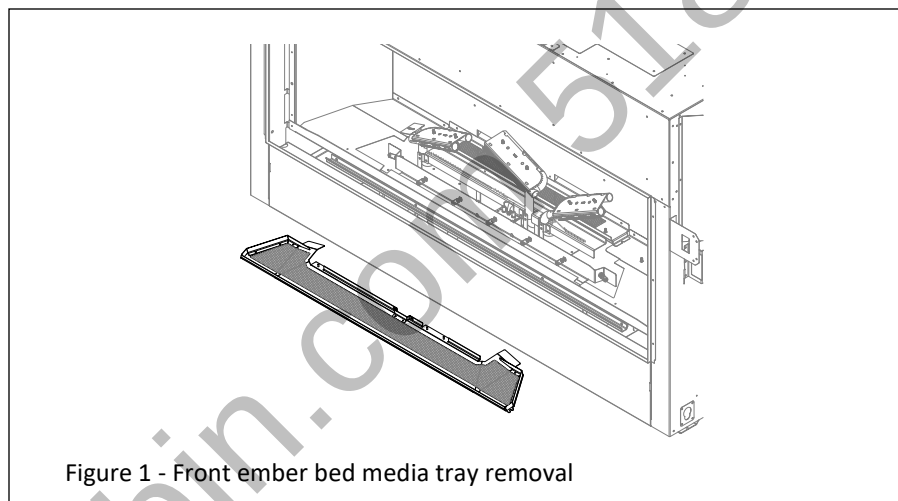
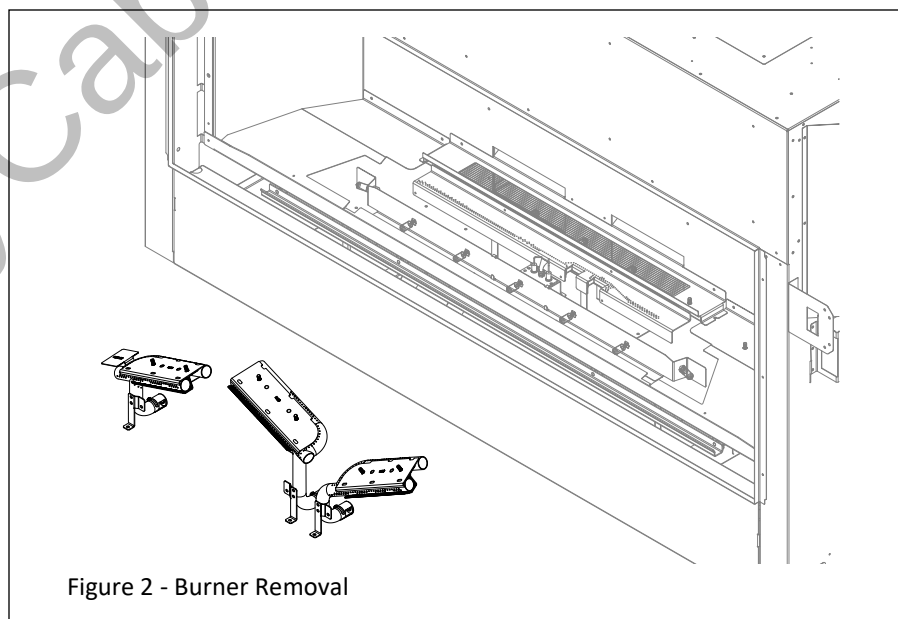

Figure 1 - Front ember bed media tray removal
Figure 2 - Burner Removal
1. Remove valance from fireplace. Remove and retain (2) screws from the front ember bed media tray. Lift tray up and out of firebox. See Figure 1. Remove the (9) sheet metal screws that secure the left, center, and right burners to the bottom burner and floor of the control board. Remove the left, center, and right burners. See Figure 2.